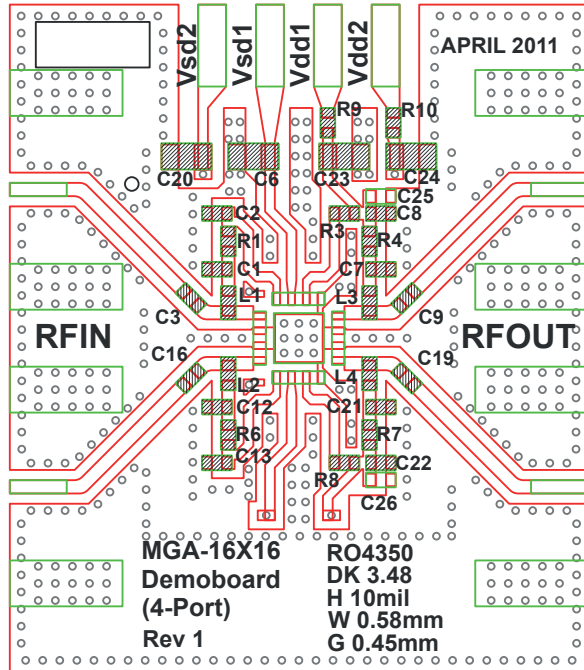
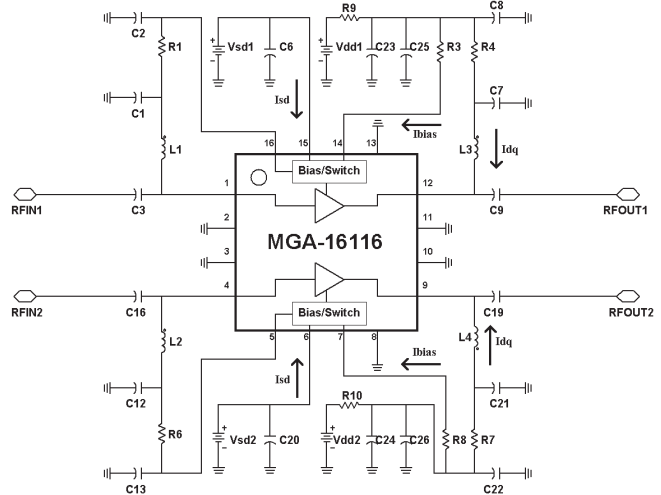

Figure 5. Demo Board Layout Diagram
Figure 6. Demo Board Schematic Diagram
4. Refer to Figure 6 for more details.
7. Bias to each LNA is adjustable using R3 and R8 (see Figure 6). Increasing R3 and R8 will reduce bias current (I_{dd}) and vice-versa.
RF performance at $T_A = 25^\circ\text{C}$, $V_{dd} = 4.8\text{ V}$, $I_{dd} = 60\text{ mA}$. Measurements made on single-ended amplifier in LNA mode tuned to 900 MHz, using Figure 5 demoboard and Figure 6 circuit. Signal = CW unless stated otherwise. IIP3 test condition: FRF1-FRF2 = 1 MHz with input power of -20 dBm per tone.
2. Rbias is R3 and R8 from Figure 6.